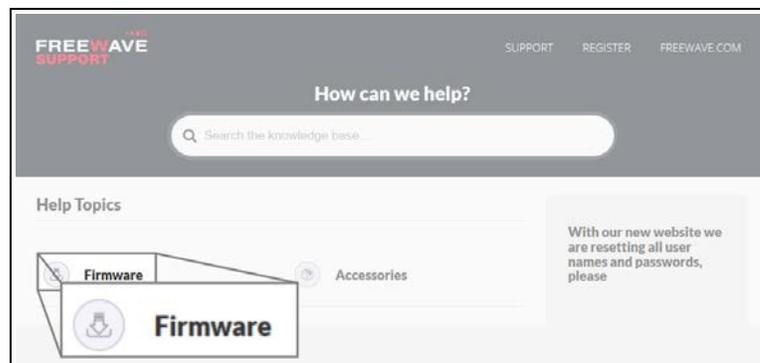

Figure 10: Help Topics window - Firmware link
4. Click the **Firmware** link. Figure 10